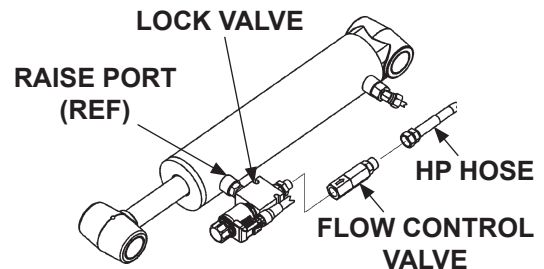

FIG. 37-3
2. Check the hydraulic cylinder. With the platform on the ground, remove the breather plug or vent line from the vent/down port of the cylinder (FIG. 37-3). Raise the platform even with the bed. Allow pump motor to run two seconds more while you watch for hydraulic fluid at the vent/down port. A few drops of hydraulic fluid escaping the vent/down port is normal; however, if it streams from the vent/down port, piston seals are worn. Replace seals.
3. Check and clean flow control valve in high pressure hydraulic line attached to cylinder. When installing flow control valve, make sure arrow on valve is oriented as shown in FIG. 37-3.